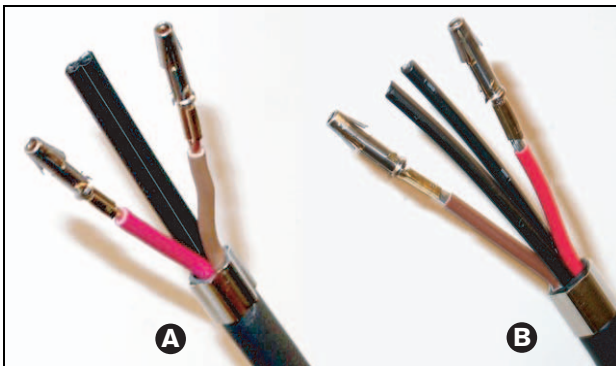

figure 3.11: Mounted socket contacts
- 12 Repeat steps 10 and 11 for the other stripped, copper wire. See figure 3.11 for the result of this part of the cable-connector mounting procedure.